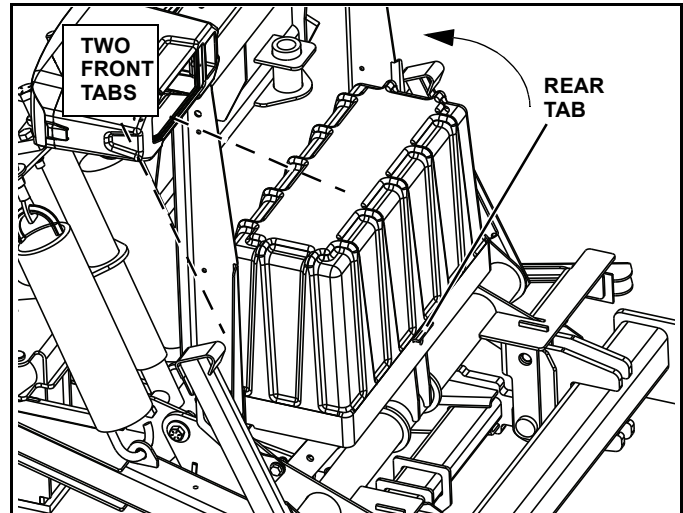

Figure 2-4
3. Remove the screw at the lower back center of the pump cover. Pull the back of the pump cover of the rear tab and rotate the cover slightly forward. Push the cover off the two front tabs and remove. (See Figure 2-4.)